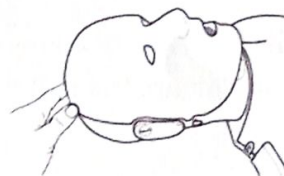

Figure 4
As the student increases the rate of compressions and reaches 80 compressions per minute, the first green light will come on until the student reaches 100 compressions per minute. (Figure 4)
4. Tilt back the head of the manikin (Figure 4).